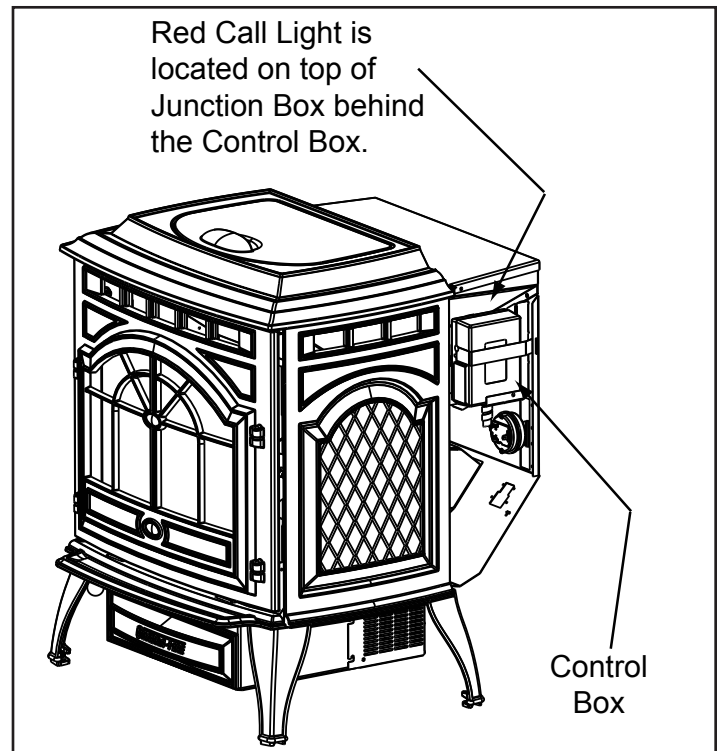

**Figure 9.1**
1. Loosen the set screw 1/4 to 1/2 turn during set-up of appliance. This will allow movement of the feed adjustment control rod. Do not re-tighten set screw. **Figure 9.1**